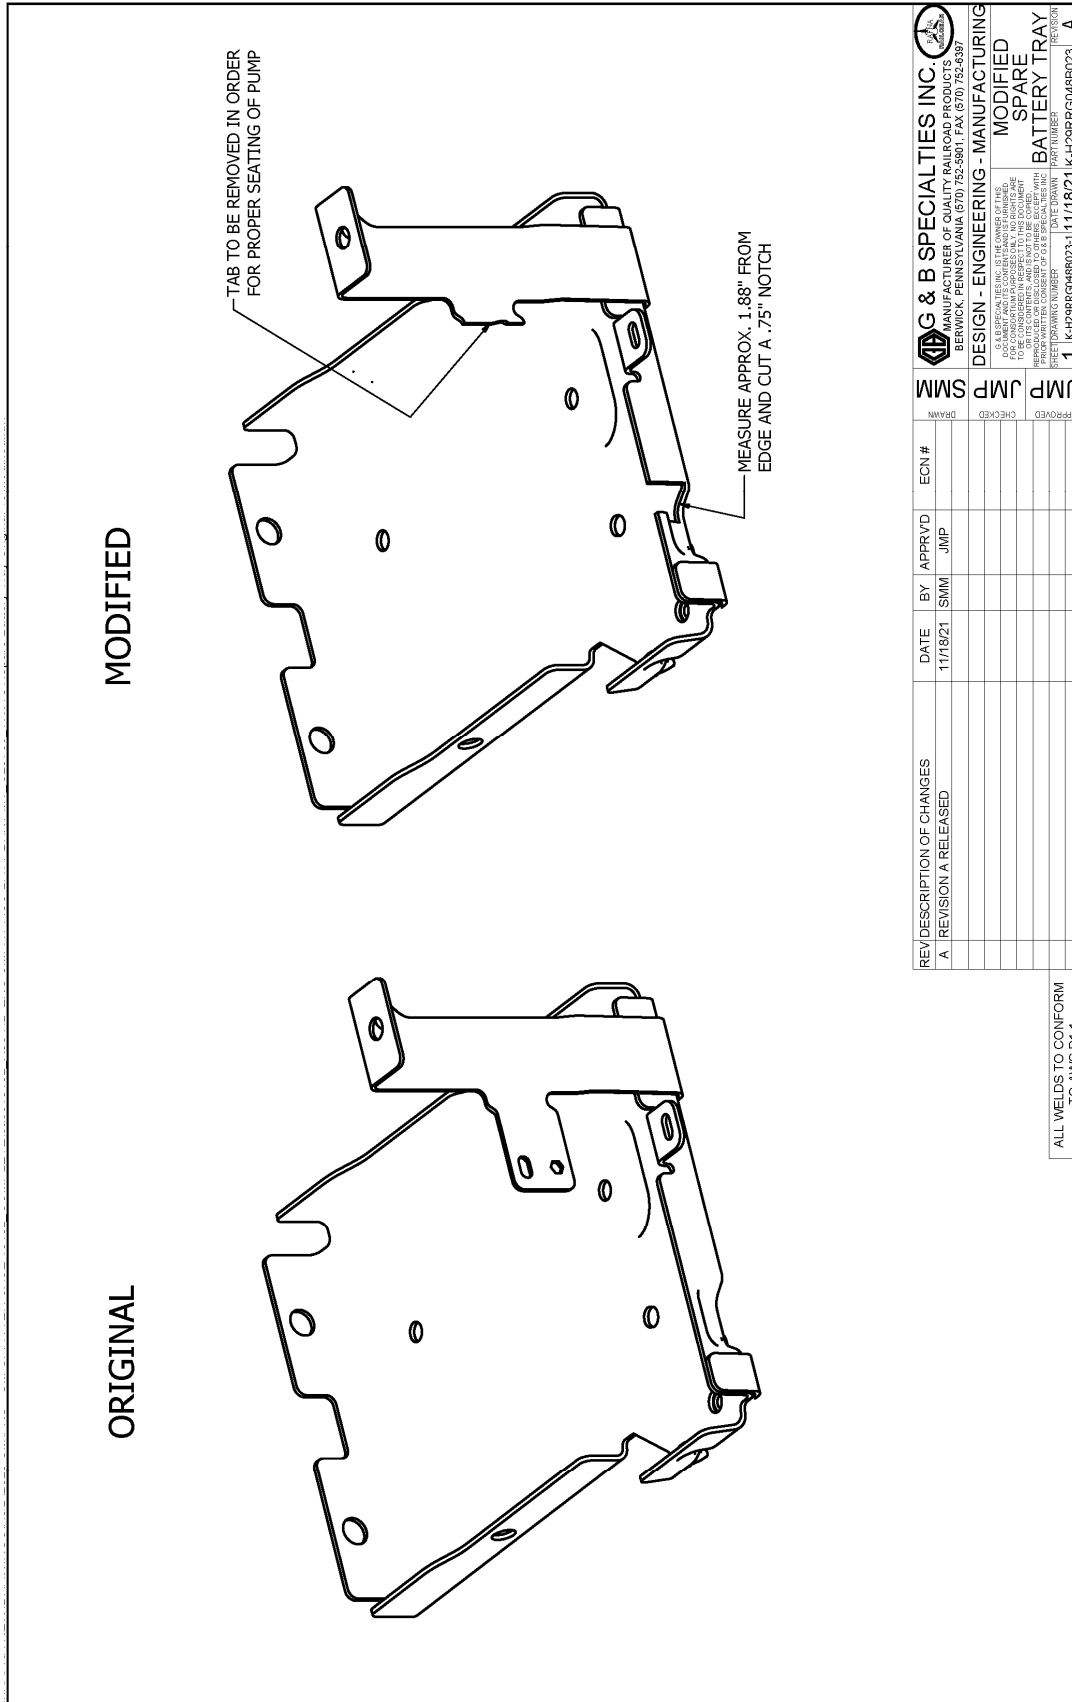

Figure 1
- a) Trim battery tray as shown. Figure 1